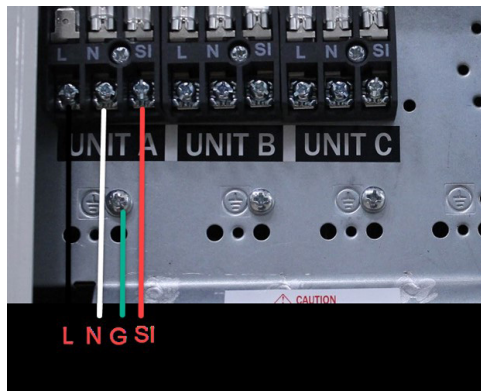

Figure 8.2
2. Run the communication cable from the A-zone, through the appropriate hole and connect the wires to the outdoor unit matching the wires to the terminal block. The wire marked L goes to L, wire N goes to N and wire SI goes to SI on the terminal block. Then the ground wire goes to the metal plate below marked ground. (See Figure 8.2 on page 33)